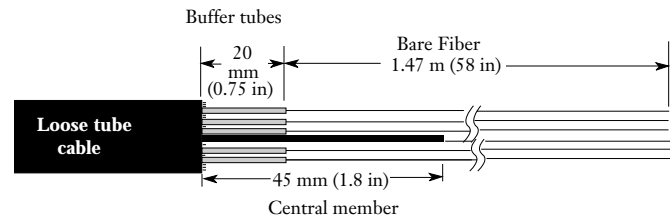

Figure 3
4.4 Refer to the stripping procedure appropriate for the loose tube cable you are using. Prepare the loose tube cable as shown in Figure 3.